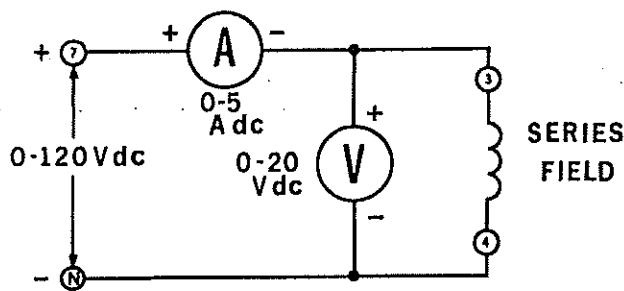

Figure 2-2.
□ 8. Connect the circuit shown in Figure 2-2.
- a. This is the same circuit shown in Figure 2-2 except that the armature winding (plus the brushes) has replaced the series field winding.